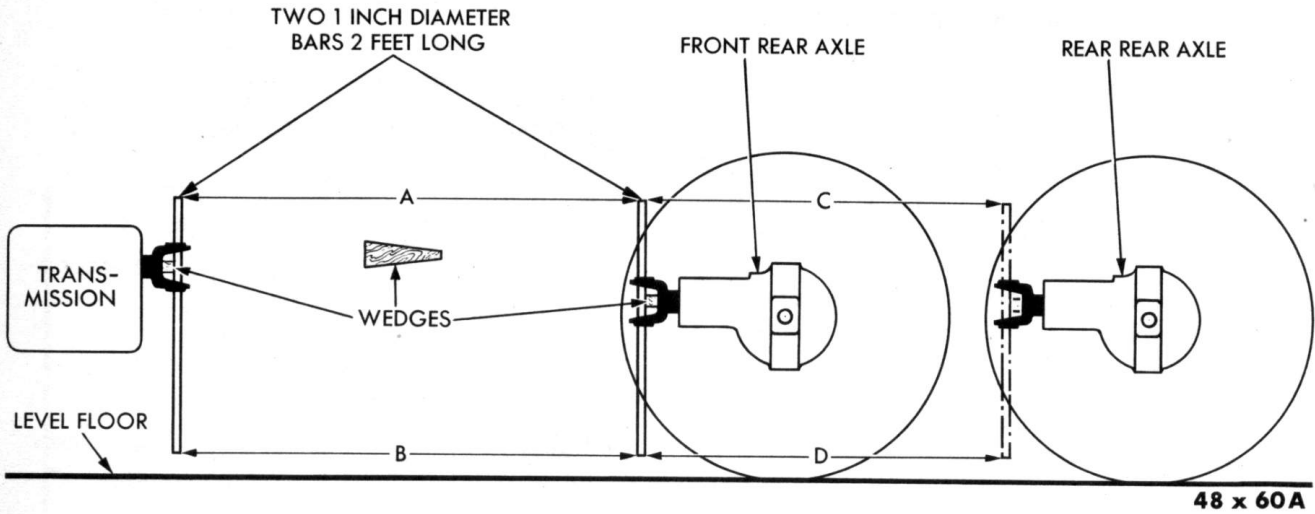

Fig. 134—Method of Checking Parallel Alignment of Universal Joint Yokes
- (3) With the propeller shafts removed, place a 1-inch bar exactly two feet long through the pin holes of each yoke, as shown in Figure 134. The bars should be extended the same distance above the floor.
- (4) With each bar properly installed, as shown
in Figure 134, drive a wedge between the yokes and the bar to hold the bar firmly and squarely against the shaft side of the hole.